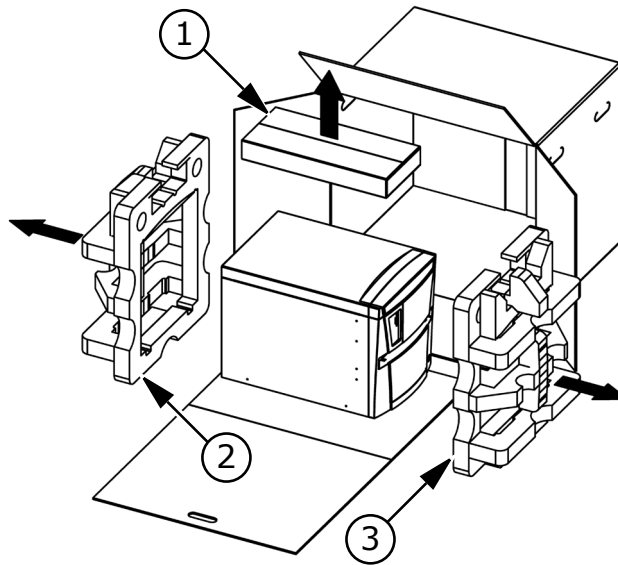

Figure 1-3 Removing the Accessories Box and Foam Packaging
4. Remove the accessories box (Figure 1-3).
5. Lift one end of the instrument slightly and remove the foam packaging from that end (Figure 1-3).
7. Lift the other end of the instrument slightly and remove the foam packaging from that end (Figure 1-3).